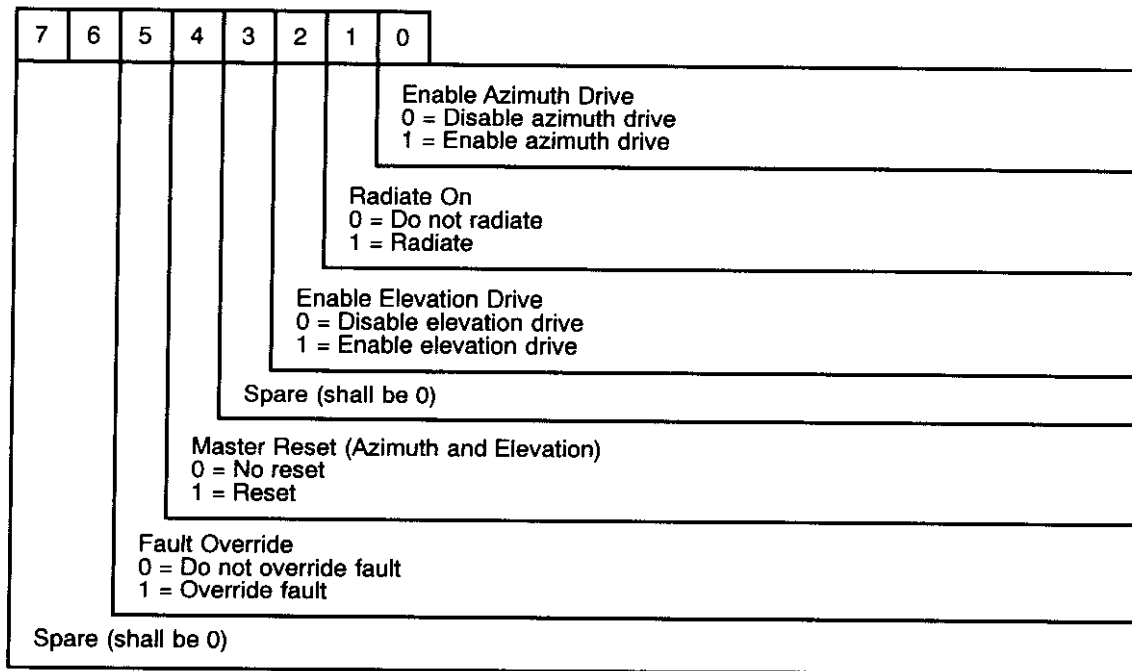

Figure 11. TAC to Antenna Command Word
- Word 4: Command (see Figure 11)